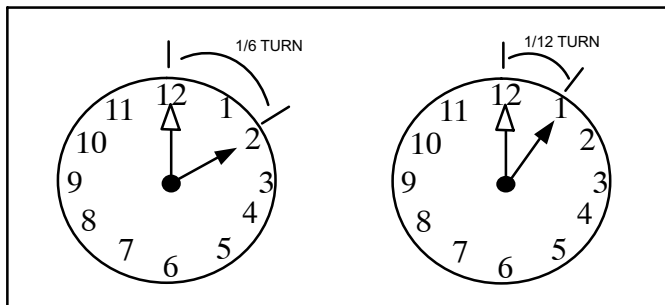

Figure 1. Tightening Distances
Use a torque wrench and the Table 1 when tighten various components. In the absence of a torque wrench, use figures 1 and 23 for tightening distances.
- *Without Torque Wrench:* Finger tighten and use an appropriately sized wrench to turn an additional 1/6 turn clockwise as illustrated in figure 1.
- *Without Torque Wrench:* Finger tighten and use an appropriately sized wrench to turn an additional 1/12 turn clockwise as illustrated in figure 1.
- *Without Torque Wrench:* Finger tighten and use an appropriately sized to wrench turn an additional 1/12 turn clockwise as illustrated in figure 1.